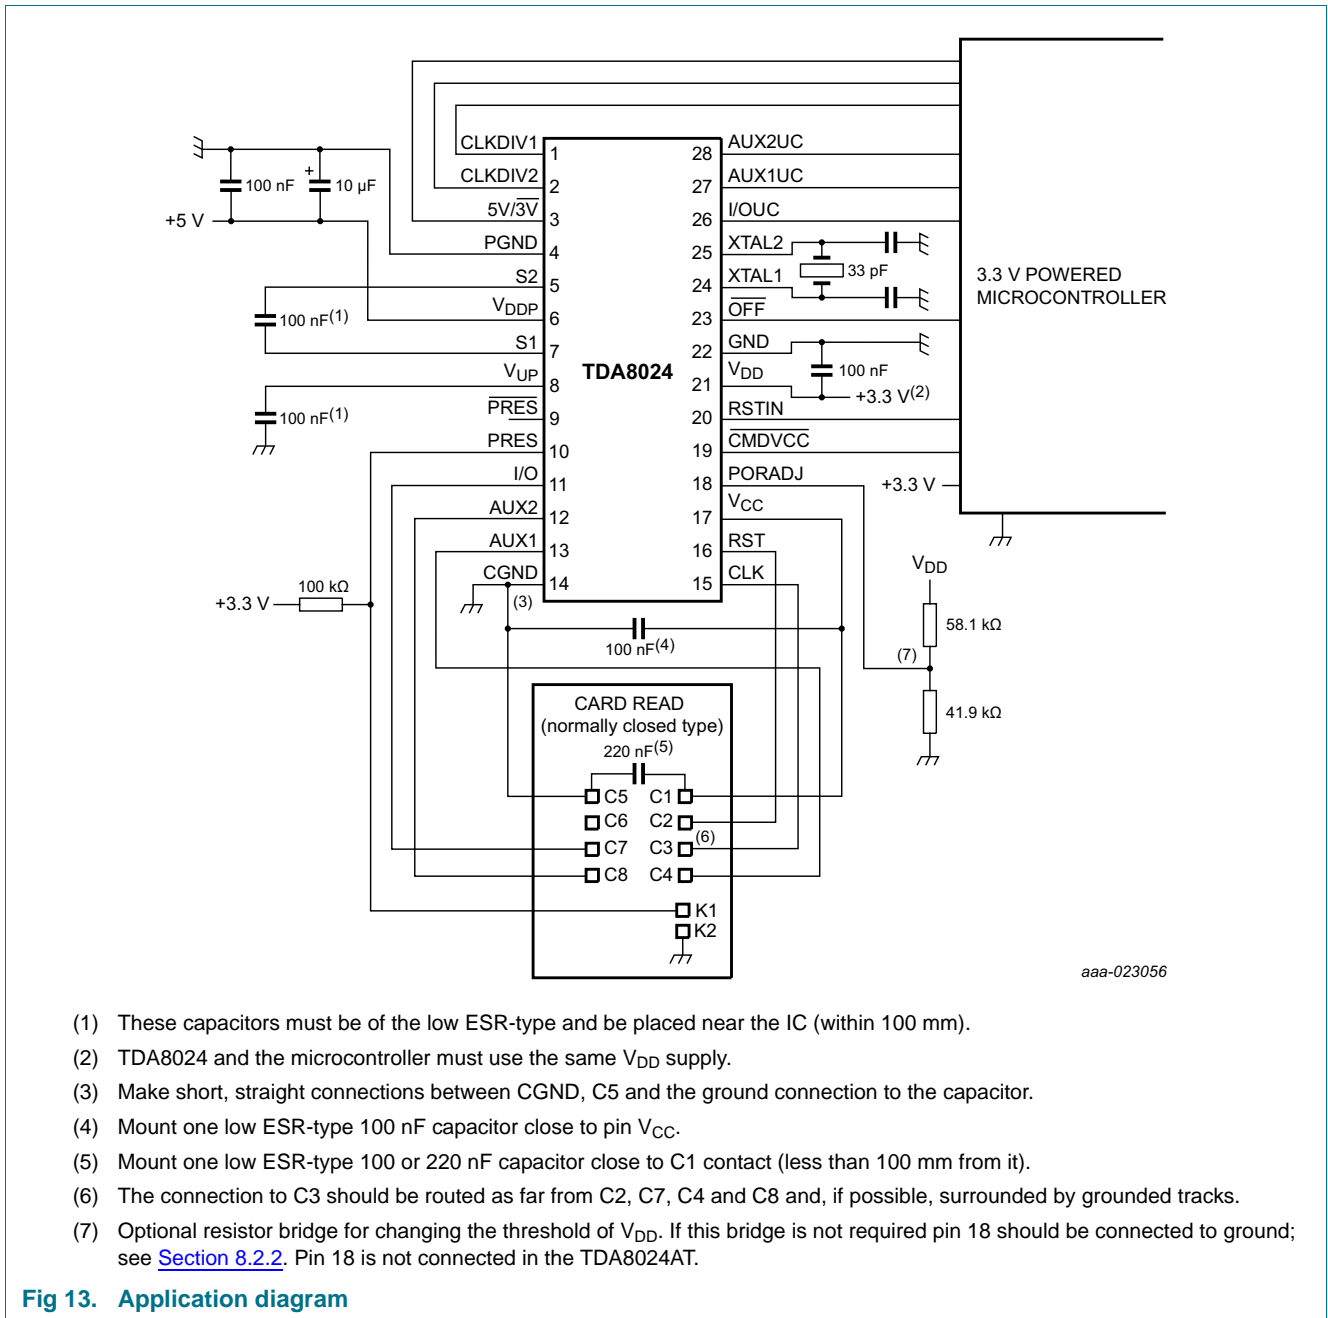

Fig 13. Application diagram
- [3] To meet these specifications, pin V_{CC} should be decoupled to CGND using two ceramic multilayer capacitors of low ESR both with values of 100 nF, or one 100 nF and one 220 nF (see Figure 13).